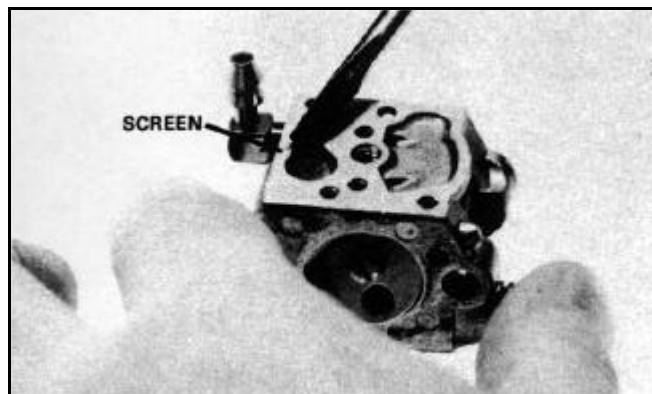

Figure 209
6. Remove the fuel inlet screen (Figure 209).